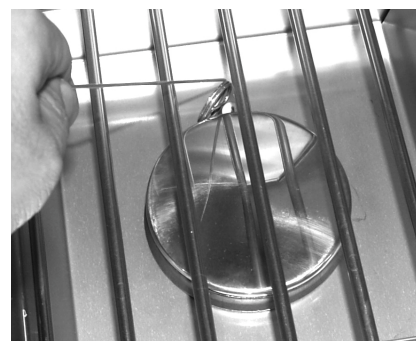

Fig. 29-2 - Manual lighting
2. Insert either a burning long-barrel butane lighter, a burning long-stem match, or a burning match held by a wire extension holder through the cooking grids to the burner (Fig. 29-2). Hold the flame against the edge of the burner.
4. If the burner does not light within five (5) seconds of turning the control knob, **immediately depress the knob and turn the valve to OFF**. **WAIT FIVE (5) MINUTES** before repeating steps 2 through 4 of the **MANUAL LIGHTING** instructions.